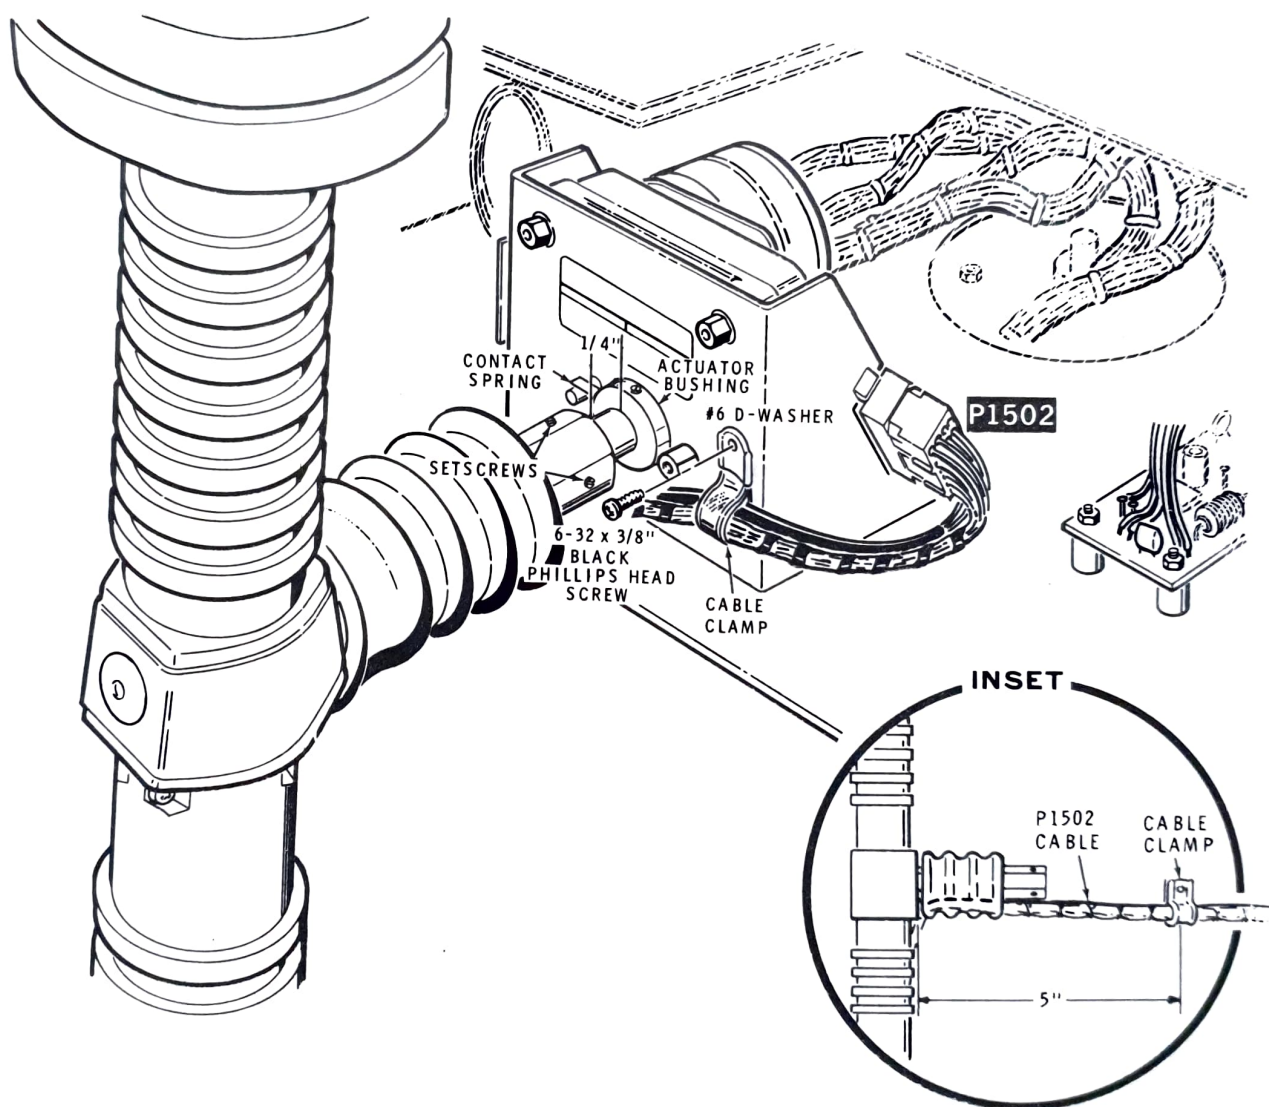

FIGURE 5
The arm mounts on the shaft extending from the bracket at the back of the head. The head panel must be off to mount the arm. Refer to Figure 5 for the following steps.
- Remove the cable clamp and D-washer from the bracket and place the clamp on the arm cable, 5" from the arm body. See the Inset drawing in Figure 5.